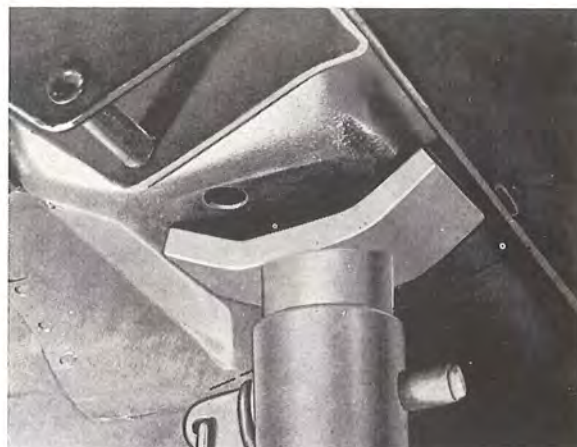

Fig. 4-139. Placing the block support
1. Place chocks in front of the front wheels. Slacken the rear wheel nuts. Raise the rear end of the vehicle and place blocks under in front of the rear jack attachments, see Fig. 4-139. Note that the blocks must not be placed at a point further than the dashed line indicated in the figure. Take off the rear wheels.